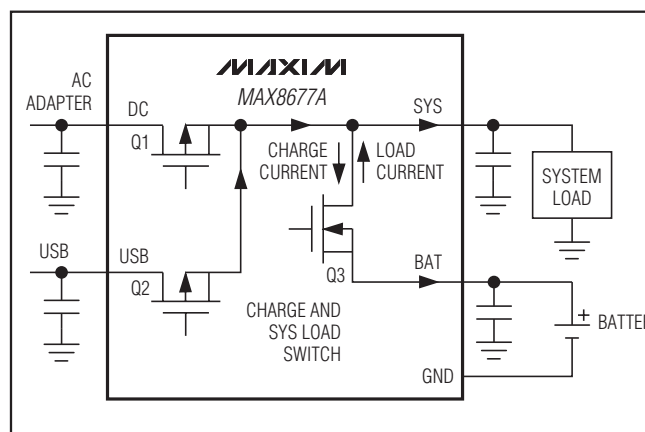

Figure 4. Smart Power Selector Block Diagram
The MAX8677A Smart Power Selector seamlessly distributes power between the external inputs, the battery, and the system load (Figure 4). The basic functions performed are:
An internal 40mΩ MOSFET connects SYS to BAT (Q3, Figure 4) when no voltage source is available at DC or USB. When an external source is detected at DC or USB, this switch is opened and SYS is powered from the valid input source through the input limiter.
The input voltage limiter is essentially an LDO regulator designed to run in dropout. While in dropout, the regulator dissipates a small I^2R loss through the 0.2Ω MOSFET (Q1, Figure 4) between DC and SYS. With an AC adapter or USB source connected, the input limiter distributes power from the external power source to the system load and battery charger. In addition to the input limiter's primary function of passing power to the system and charger loads at SYS, it performs several additional functions to optimize use of available power:
- **Input Voltage Limiting.** If an input voltage is above the overvoltage threshold (6.9V typ), the MAX8677A enters overvoltage lockout (OVLO). OVLO protects the MAX8677A and downstream circuitry from high-voltage stress up to 14V at DC and 8V at USB. In OVLO, VL remains on, the input switch that sees overvoltage (Q1, Q3, Figure 4) opens, and the appropriate power-monitor output (\overline{DOK} , \overline{UOK}) is high impedance, and \overline{CHG} is high impedance.
If both DC and USB see overvoltage, both input switches (Q1 and Q2, Figure 4) open and the charger turns off. The BAT-SYS switch (Q3, Figure 4) closes, allowing the battery to power SYS.
An input is also invalid if it is less than BAT, or less than the DC undervoltage threshold of 3.5V (falling). With an invalid input voltage, SYS connects to BAT through a $40m\Omega$ switch (Q3, Figure 4).
- **Adaptive Battery Charging.** While the system is powered from DC, the charger draws power from SYS to charge the battery. If the charger load plus system load exceeds the input current limit, an adaptive charger control loop reduces charge current to prevent the SYS voltage from collapsing. Maintaining a higher SYS voltage improves efficiency and reduces power dissipation in the input limiter. The total current through the switch (Q1 or Q2 in Figure 4) is the sum of the load current at SYS and the battery charging current. The limiter clamps at 5.3V, so input voltages greater than 5.3V can increase power dissipation in the limiter. The limiter power loss is $(V_{\text{DC}} - 5.3) \times I$, but not less than $I^2 \times 0.2\Omega$. Also note that the MAX8677A turns off any input that exceeds 6.9V (nominal).